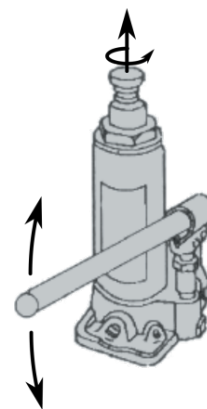

Figure 4: Lifting with the service jack
3. Position the service jack under the vehicle in such a way that the hydraulic jack is located centrally under the mounting point of the vehicle (for more information, consult the manual of your vehicle). Rotate the extension spindle, anti-clockwise (Figure 4) until it makes contact with the mounting point of the vehicle.